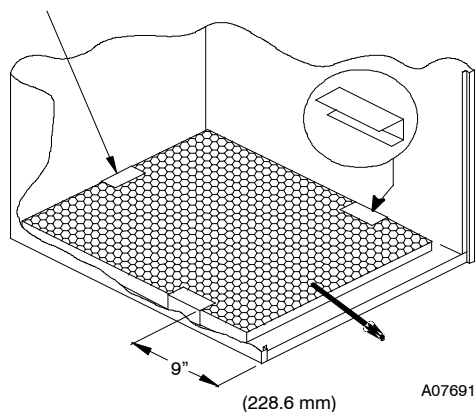

Fig. 2 - Bottom Filter Arrangement
- Slide filter out of furnace (See Fig. 2 and 3).